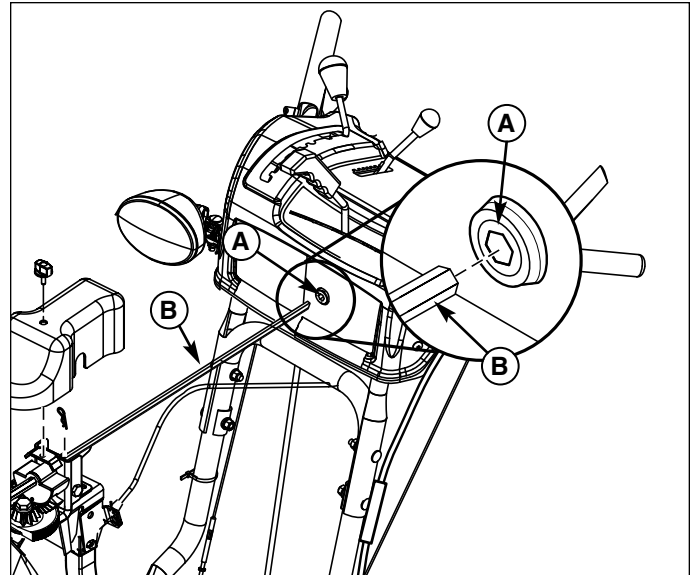

Figure 31. Install Spout Rotator Rod
16. Slide spout rotator rod (B, Figure 31) into hex dash opening (A).